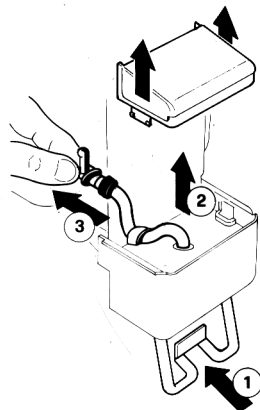

figure 8
- 1 - Remove the faucet top cover. Push (1) the dispensing handle and remove the pinch tube from its vertical seat (2) in the faucet body and from its horizontal one (3) from the bowl bottom (see figure 8).